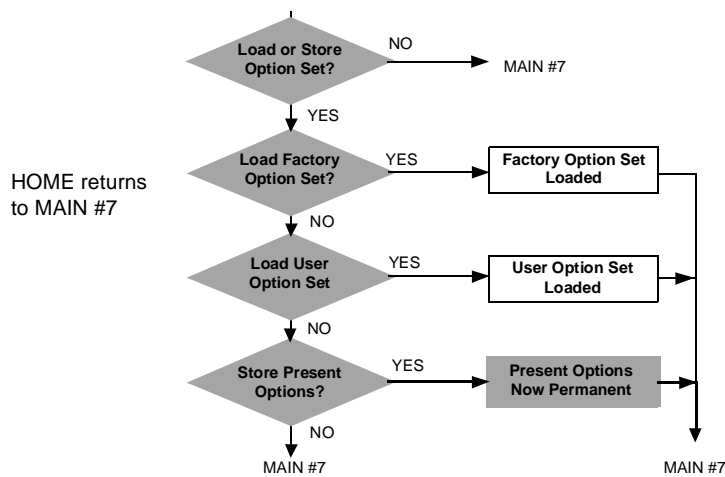

Figure 75 Store Your User Option Set
- 3 The flow chart in *figure 75* shows the steps necessary to store your User Option Set from the Main #7 screen. Follow the steps outlined in the flowchart.